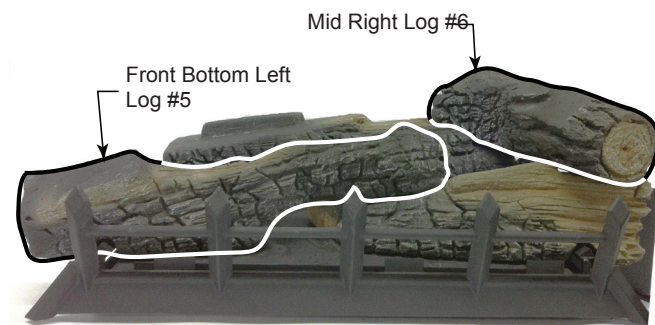

Figure 39
5. Place front bottom left log (#5) on left pin located on burner and left grate bar. The right side of the log should rest on log #4. *Figure 39*